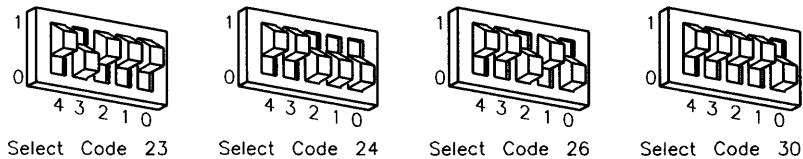

Figure 5-11.
- Set these switches to one of the four select codes given in Figure 5-11, unless you have used them elsewhere. Refer to the installation note that came with the interface if you need additional switch settings.